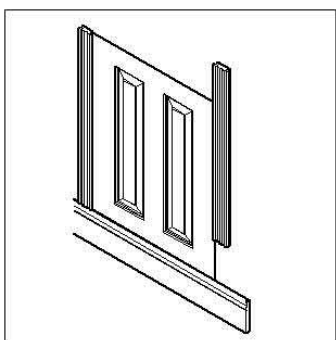
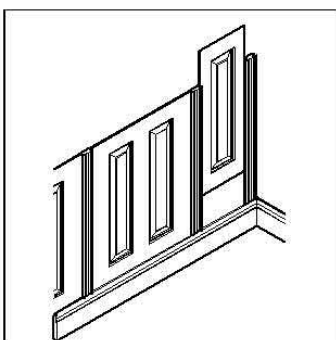

Fig 3. Fix first jointing strip in place, ensure it is vertical. Slot panel into first jointing strip and skirting. Then slide on second jointing strip.
Fig 4. Try to ensure that part or cut panels are in corners or next to architraves.
3. To assess the angle of the stairs you can use an uncut stair panel. Position the panel as shown in figure 3. Place the stair panel against the vertical jointing strip (but NOT IN THE GROOVE) and slide until the other bottom corner meets the stair rail (again NOT in the groove). Now measure the distance X. Next measure the same distance as X in the position Y - this gives the angle to cut shown by the dotted line. When panel is cut, check the panel fits correctly into the grooves of the stair rail & jointing strip and is vertical. You can now measure for the top cut. Figure 4 shows how you should measure 783mm from A to B and 783mm from C to D - 783mm is the height of the standard wall panel.